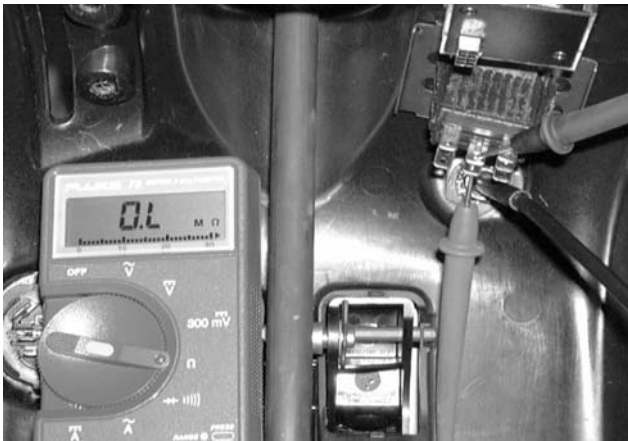

Figure 9-79
–There will be **NO CONTINUITY**. See Figure 9-79.